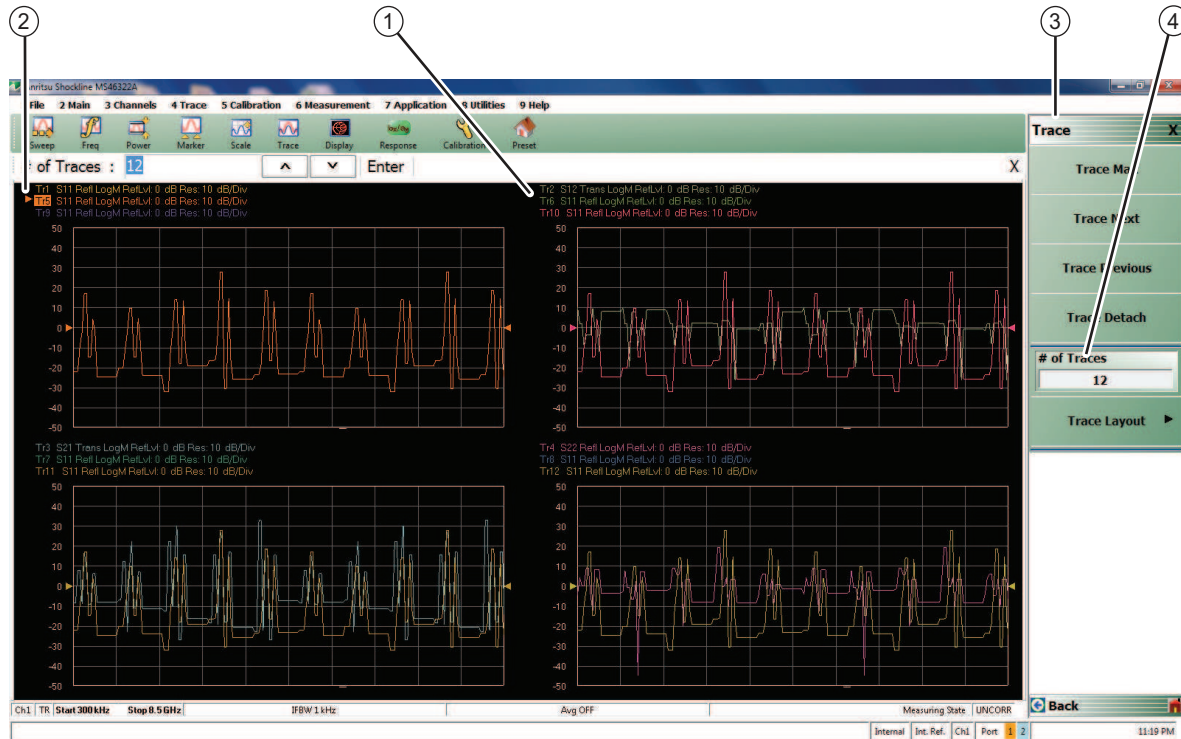

Figure 4-3. User Interface - 12 Traces (simulated data)
2. The selected channel border changes from gray to white. (Figure 4-3, “User Interface - 12 Traces (simulated data)” on page 4-3 shows Channel 2 (Ch2) selected.)